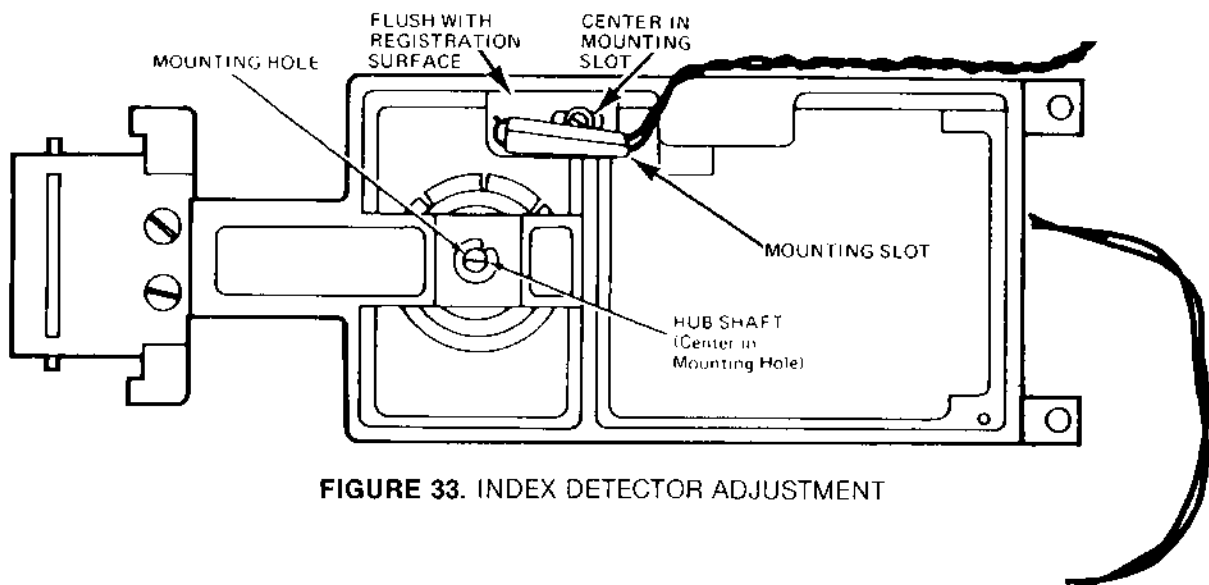

FIGURE 33. INDEX DETECTOR ADJUSTMENT
- a. Position the index detector assembly flush with the registration surface on the hub frame. Reference Figure 33.
- b. Position the detector assembly in the center of its mounting slot. Tighten the mounting screw, Reference Figure 33.